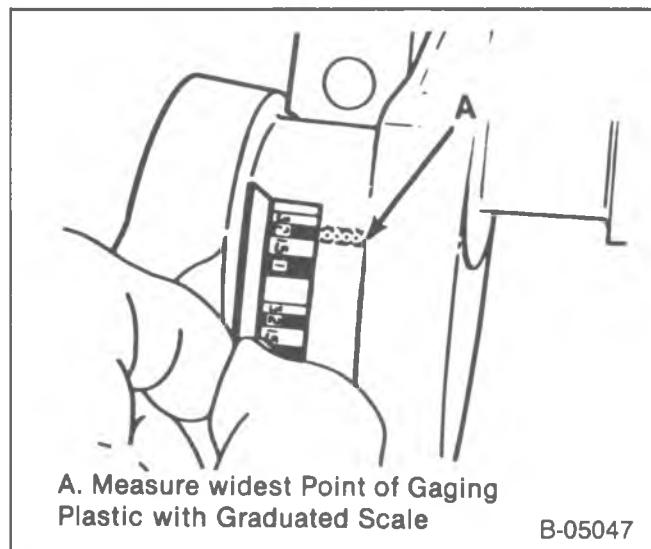

Figure 38—Measuring the Gaging Plastic
Measure (Figure 38)
2. On the edge of the gaging plastic envelope there is a graduated scale. Without removing the gaging plastic, measure its compressed width (at the widest point) with the graduations on the gaging plastic envelope (figure 38).